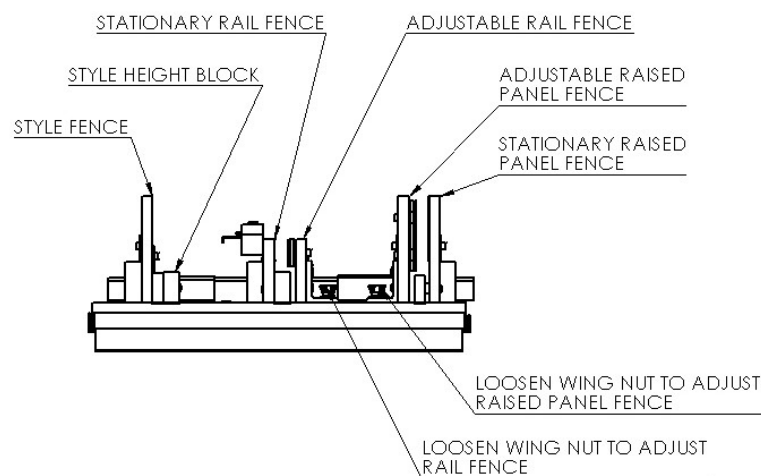

Fig. A-8
2. On each pair of fences adjust one side (the side with the wing nuts), and leave the other side tight (see fig. A-8). To adjust the fence loosen the four wing nuts on the fence bracket, there are two wing nuts on each end of the fence.
3. Loosen the slide blocks by loosening the bolts under the table which hold the slide blocks on (see fig. A-8). There are two bolts in each slide block.